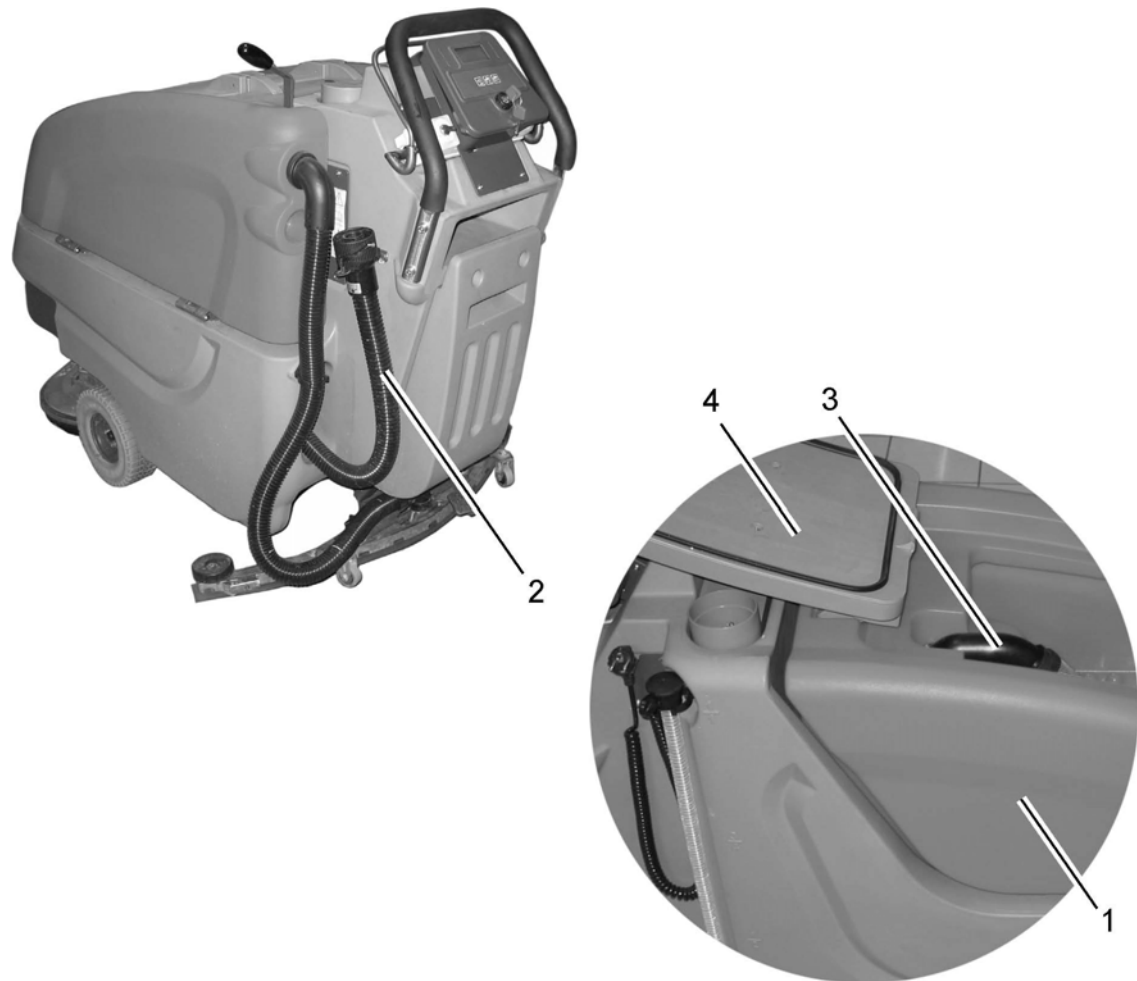

Fig.9
Clean recovery tank (Fig. 9/1) at daily intervals, as required or upon acoustic signal (increased suction turbine speed).
4. Take drain hose (Fig. 9/2) from holder and empty recovery tank completely.
Clean recovery tank (Fig. 9/1) at daily intervals or as required.
2. Open tank lid (Fig. 9/4) of the recovery tank.
3. Take drain hose (Fig. 9/2) from holder and empty recovery tank completely.
Check suction filter (Fig. 9/3) for function at daily intervals and clean if required. The suction filter is clipped and can be easily removed.